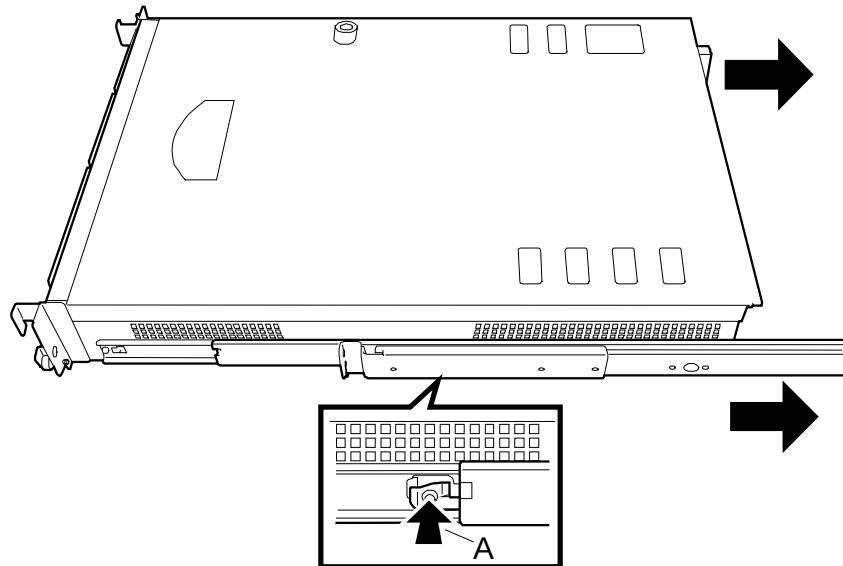

Figure 2-2. Removing the Rail Assemblies from the Server
3. Push the release levers on the right and left sides of the rails (Figure 2-2, A), and remove the sliding rail assemblies from the server.